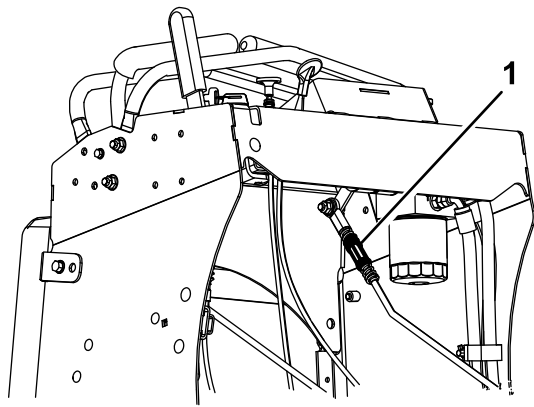

Figure 45
5. Rotate the adjustment rod on the left side of the machine (Figure 45).